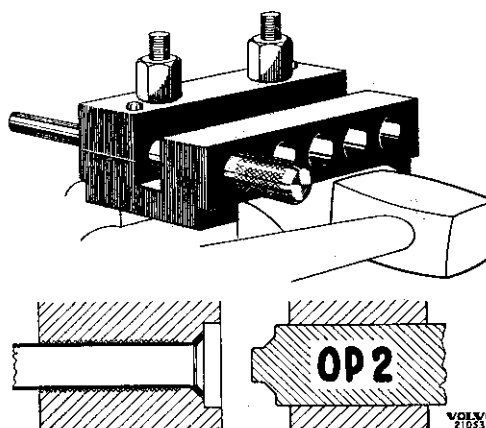

Fig. 57. Flanging a brake pipe.
4. Replace the drift with OP 2 (Fig. 57) and knock this right in.